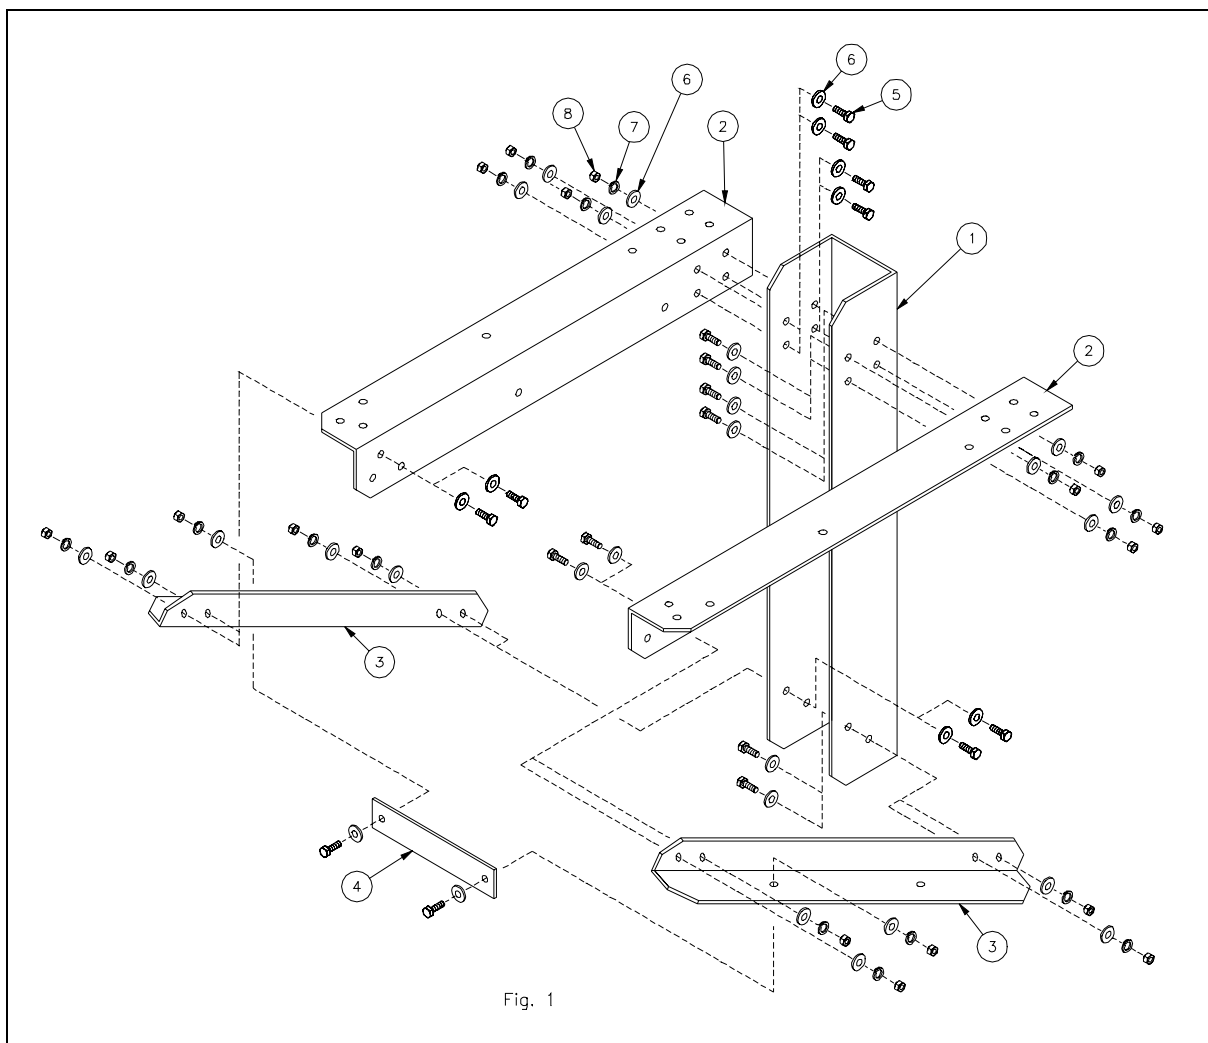

Figure 1.
1. Attach the right and left angle brackets (Item 2) to the U-channel bracket (Item 1) using screws, washers and nuts (Items 5–8) as shown in Figure 1.
2. Attach the angle support brackets (Item 3) to the U-channel bracket (Item 1) and the right and left angle brackets (Item 2) using screws, washers and nuts (Items 5–8) as shown in Figure 1.
3. Attach the stabilizer plate (Item 4) to the angle support brackets (Item 3) using screws, washers and nuts (Items 5-8) as shown in Figure 1.